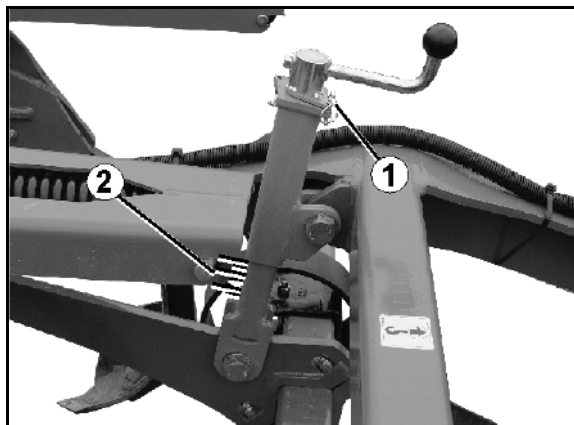

Fig. 43
1. Remove the linch pin (Fig. 43/1).
- A scale is provided for orientation on the adjustment units (Fig. 43/2).